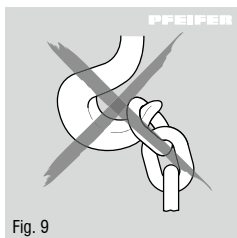

Fig. 9
- Always suspend the load in the centre (base) of the hook. Do not load the hook tip. This applies to both the upper and lower loading hooks (fig. 9).
- Do not load the hook tips (Fig. 9).
- Use in areas subject to explosive hazard (EX) is forbidden!
(up) position. Always suspend the load in the centre of the hook. Do not load the hook tips (Fig. 9).